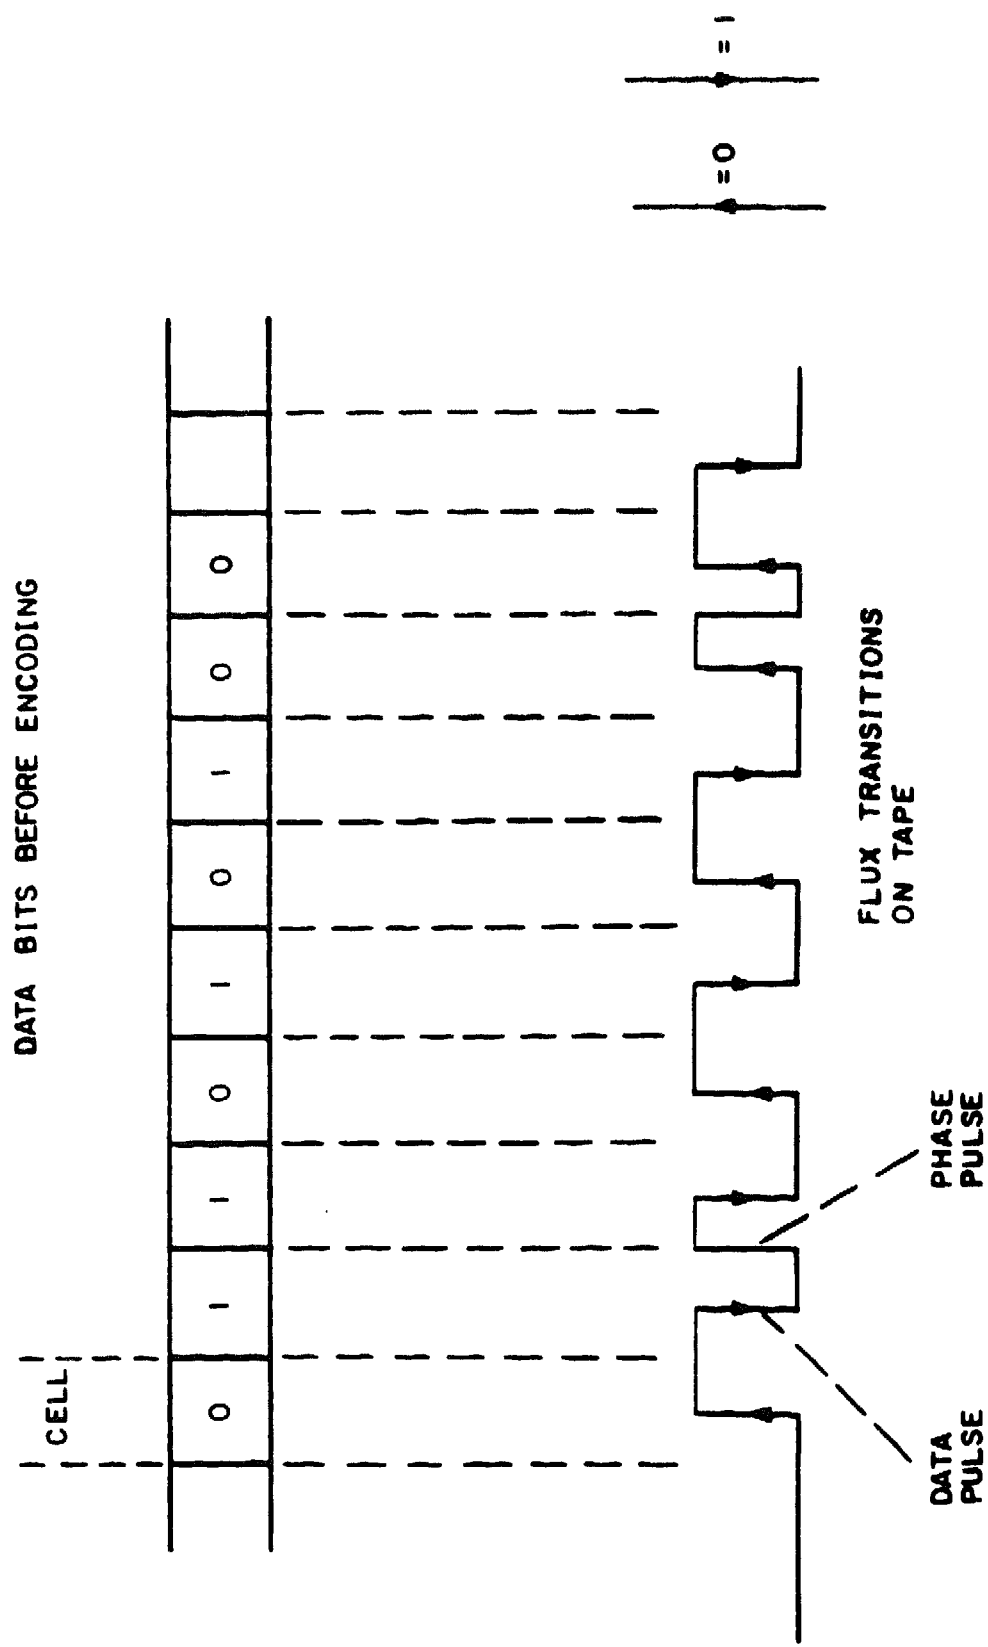

Figure 4-24. PHASE ENCODING
4.9.2.1 PE Data Conversion - In PE format, the data block must begin with a preamble and end with a postamble. In the data format sent by the host system, flux transitions in the middle of a cell define the 1's and 0's. A positive pulse (flux transition) indicates a 1; a negative pulse indicates a 0. A cell is the time required to transfer one data bit (see Figure 4-24). In order to denote two contiguous 1's or 0's, a phase pulse must occur at the junction of the two cells. A positive phase pulse occurs at the junction when both cells contain 0; a negative phase pulse occurs when both cells contain 1. The absence of a phase pulse at a cell junction indicates that the cells contain opposite values.